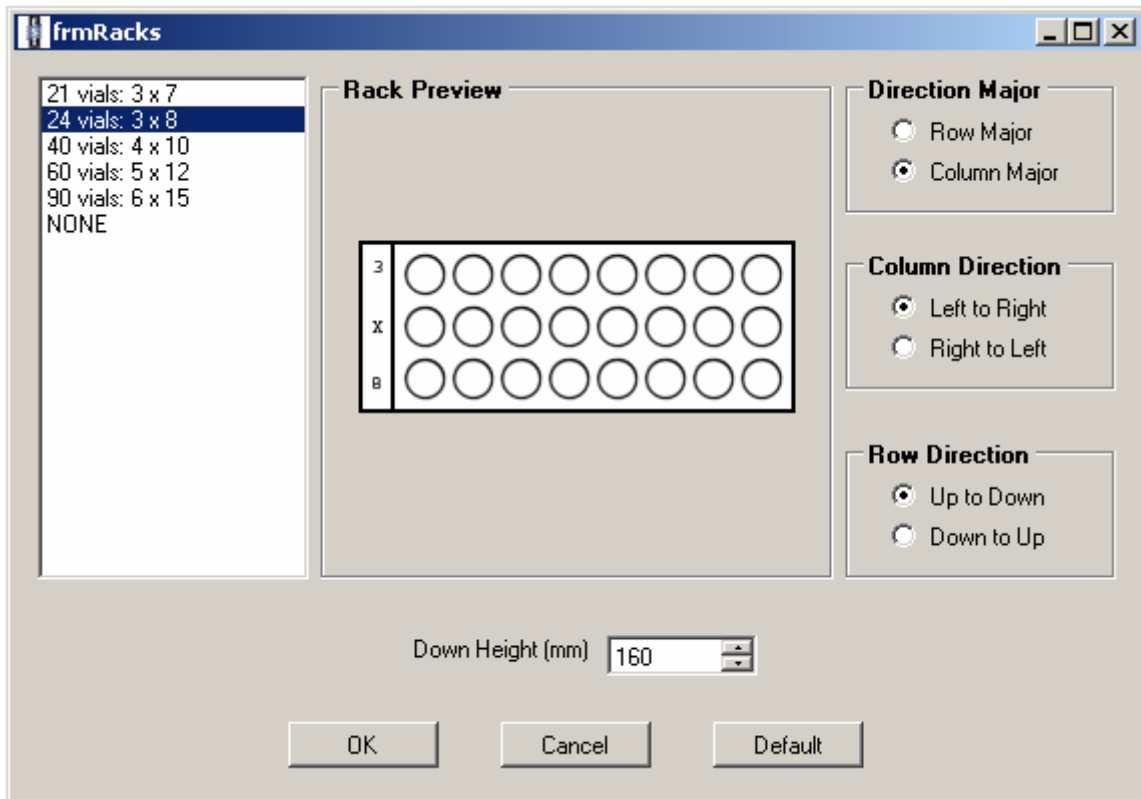

Figure 15: Racks Window and settings.
- Clicking on the rack locations in the autosampler graphic will permit the user to place a desired rack from a given list as shown in Figure 15.